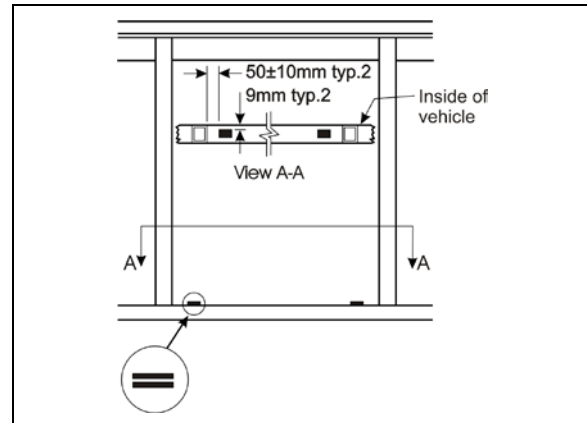

FIGURE 61 : AWNING WINDOW - RUBBER BUMPER INSTALLATION
2. Glue on the structure horizontal member, 4 rubber bumpers (#5061020), placing them 2 by 2 to have a total thickness of 1/16" (FIGURE 61).